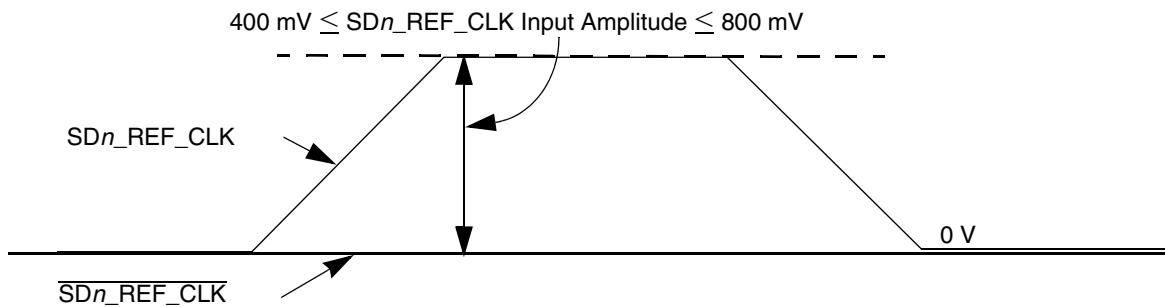

**Figure 47. Single-Ended Reference Clock Input DC Requirements**
- The SDn\_REF\_CLK input average voltage must be between 200 and 400 mV. Figure 47 shows the SerDes reference clock input requirement for single-ended signaling mode.